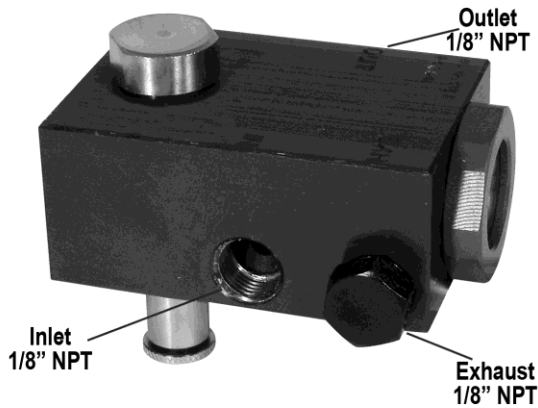

Figure 1 - DVO
5. Using the proper tools, disconnect the inlet, outlet and exhaust fittings from the existing DVO. See **Figure 1**. You will reconnect these to the new DVO in a later step.